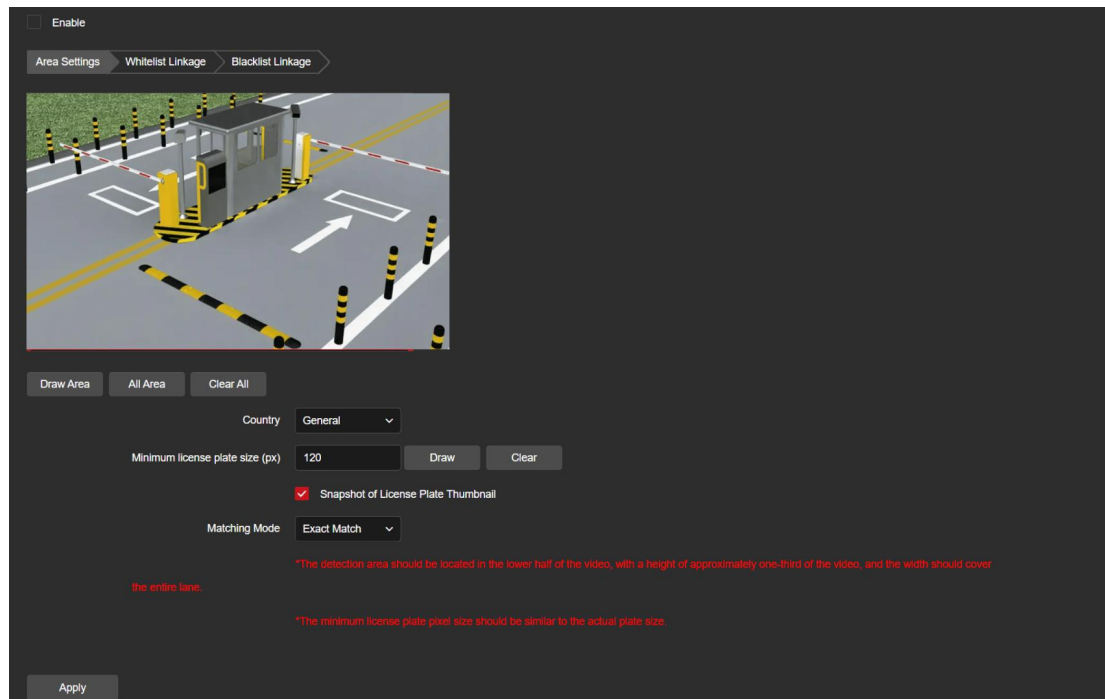

Figure 8-6-67
Step 1: In the main interface click on the "Configuration → Event → License Plate Recognition → License Plate Recognition" to enter the License Plate Recognition settings interface, as shown in Figure 8-6-67: